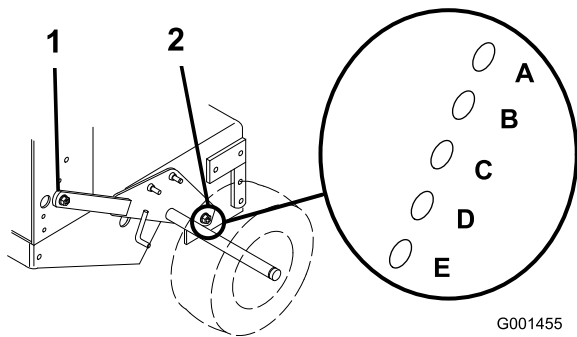

Figure 11
3. Loosen, but do not remove, the 2 axle pivot bolts and the 2 axle adjustment bolts (Figure 11).
- Place a jack under the rear center of the engine frame. Raise the back end of the engine frame up enough to remove the front 2 axle adjustment bolts (Figure 11).
- Raise or lower the engine frame with the jack so that you can install the front 2 axle adjustment bolts in the desired hole location (Figure 11).